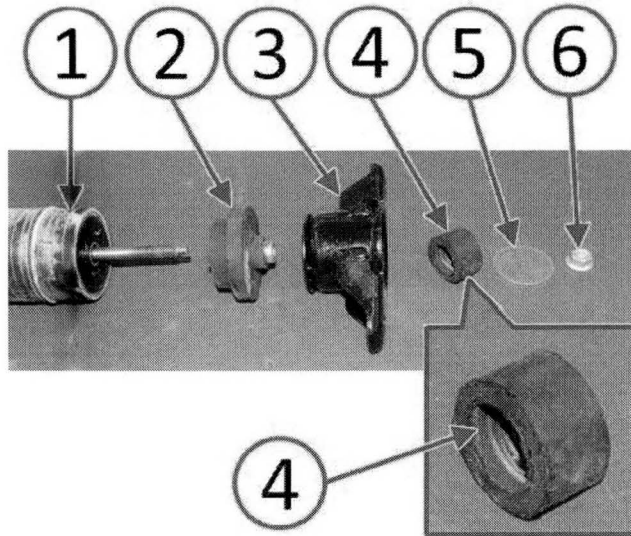

Fig. 2 Shock Upper Mount Assembly
5. Assemble the NEW shock absorber upper mount components following the order shown in (Fig. 2).